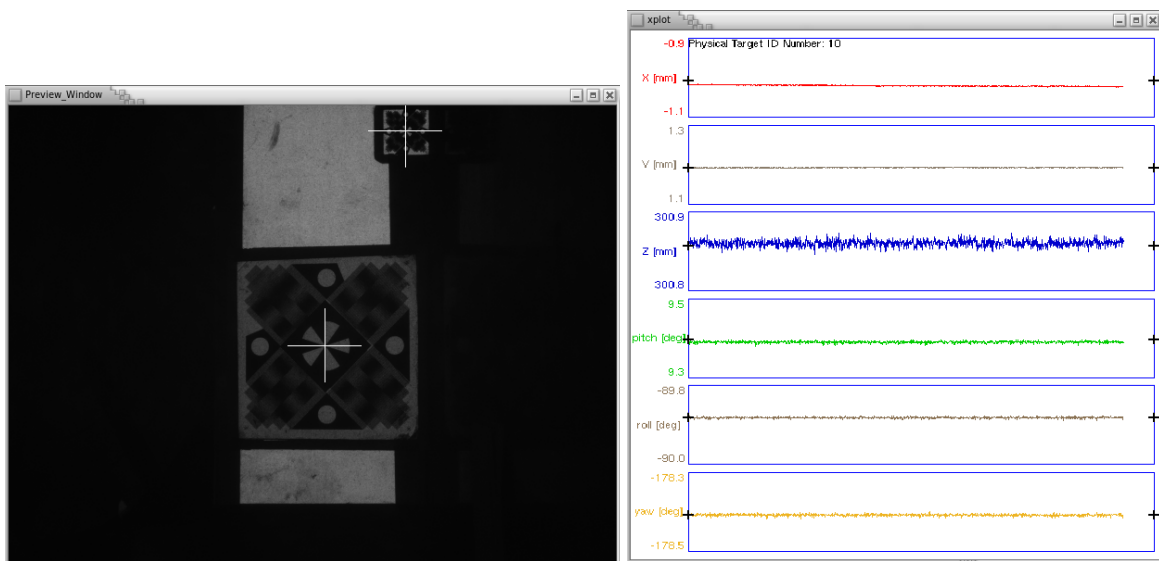

Figure 12: Preview and Graphing Windows with marked MPT markers.
4.1.7.2 Preview and Graphing Window Marking Typing an 'm' with the cursor in the preview window toggles activation of "Preview and Graphing Window Marking". When "Preview and Graphing Window Marking" is active, white cross-hairs are drawn in the preview window, as seen in figure 12. Black '+'s are drawn at the edges of the graphing window, also seen in figure 12.
As seen in figure 12, when tracking multiple markers, "Preview and Graphing Window Marking" will mark all markers in the preview window.